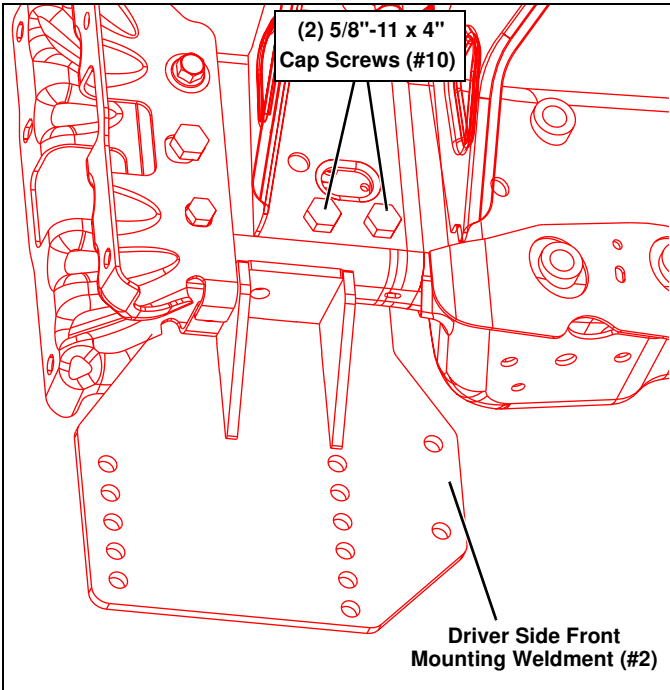

Figure 6
- Insert (2) 5/8"-11 x 4" Cap Screws (#10) through the frame where the Frontal Crash Brackets were located and secure to the Driver Side Front Mounting Weldment (#2) with (2) 5/8"-11 Locknuts (#11). (See Figure 6.) If installing on a diesel engine, the intercooler bracket will complicate this step. If there is an intercooler bracket, place the locknuts into position with the open end of a wrench, then insert the cap screw through the frame. You may have to pry the intercooler bracket away from the vehicle frame during this step.